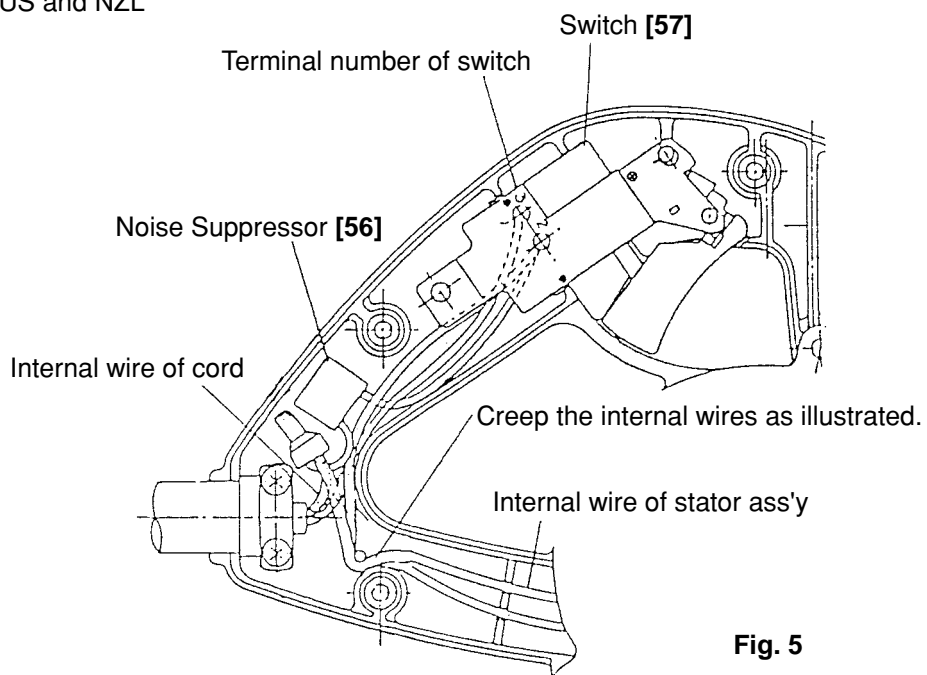

Fig. 5
(6) Internal wire arrangement (See Figs. 5 to 6.):